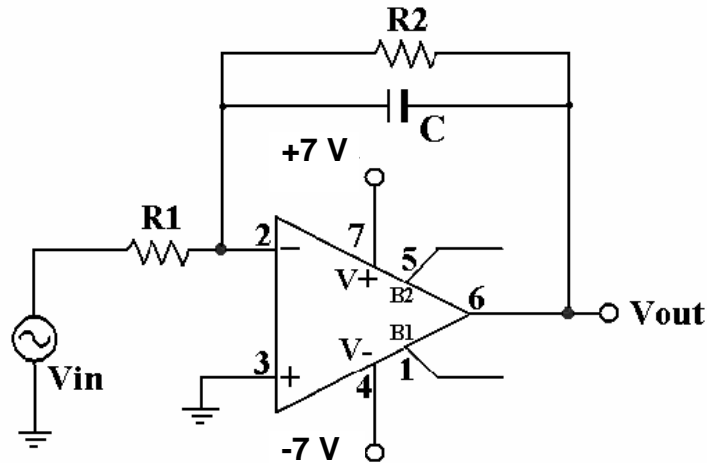

Fig 2. Lossy integrator circuit
It can be seen that the output is directly proportional to the integral ( $1/s$  term) of the input signal and a steadily changing output voltage is produced for a constant amplitude sinusoidal input voltage. Notice that the DC gain ( $s=0$ ) at the output is theoretically infinite; hence any small DC signal at the input will saturate the Opamp output over time. In a real integrator circuit, a large resistor in parallel with the capacitor is required to prevent the capacitor from storing charge due to offset currents and voltages at the input. This configuration is known as “lossy” integrator or a first order lowpass circuit, which is shown in Fig. 2.
1. For the lossy integrator in Fig. 2 with power supplies  $\pm 7V$ , and assuming the Opamp is ideal, derive the time-domain equation for the output in terms of the input. Show that the circuit performs as an integrator.